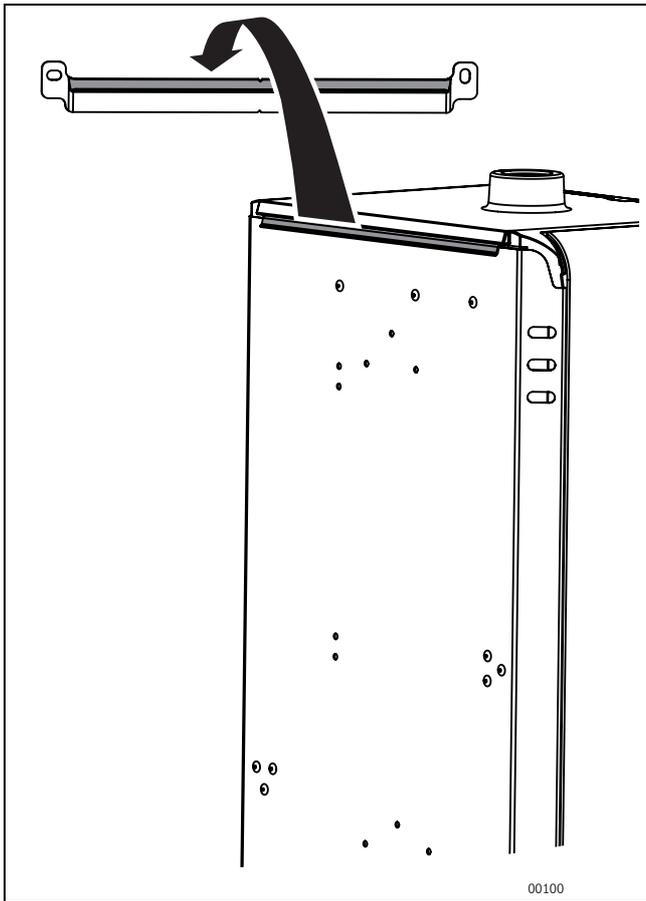

Fig. 16 Hanging the indoor unit
- ▶ Hang the indoor unit centrally onto the mounting rail (→Fig. 16).